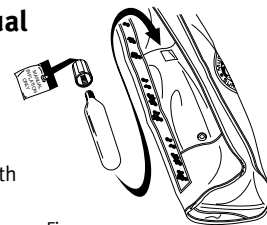

Fig. 13
After purchasing your AirForce, make sure it has an unused 33gm CO₂ cylinder attached to the inflator mechanism and a spare 33 gm CO₂ cylinder and yellow manual cap stowed in the accessory pocket, (see figure 13 on page 11). Check the components and how to assemble the inflator by following these steps:
6. Inspect the accessory pocket found under the wearer's left lobe of the bladder. Ensure that there is one unused CO₂ cylinder and a yellow manual cap. (Fig. 13.)
- Remove the yellow Manual Cap and spare CO₂ cylinder from the pocket located under the left cover of the inflatable cell. Place the auto cap in the pocket for future use. (Fig. 13).
- Remove the Auto Cap from pocket located under the left cover of the inflatable cell. Stow the Manual Cap (with hang-tag) along with an unused CO₂ cylinder in the pocket and skip to step 7. (Fig. 13).